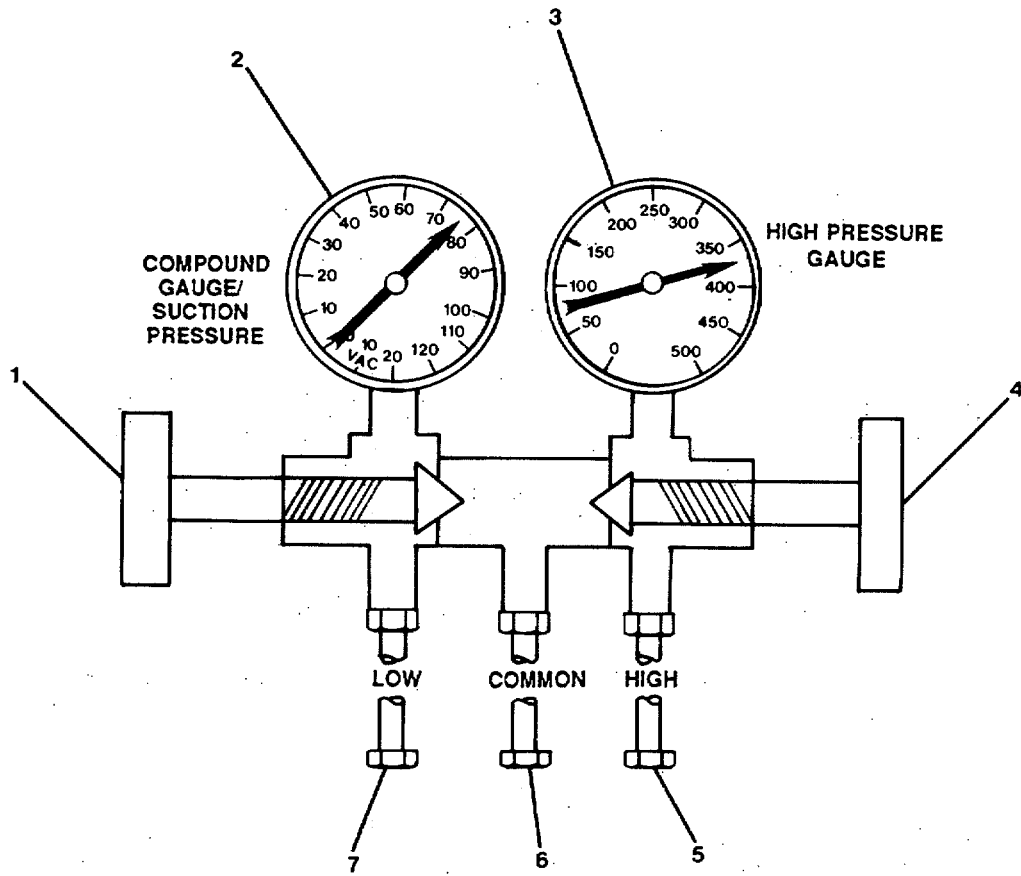
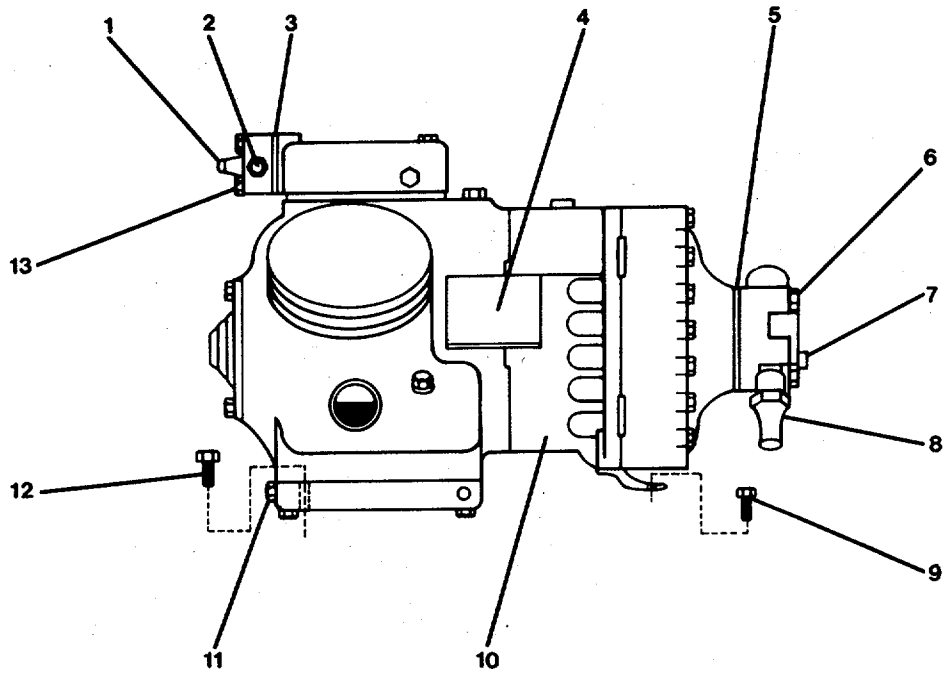
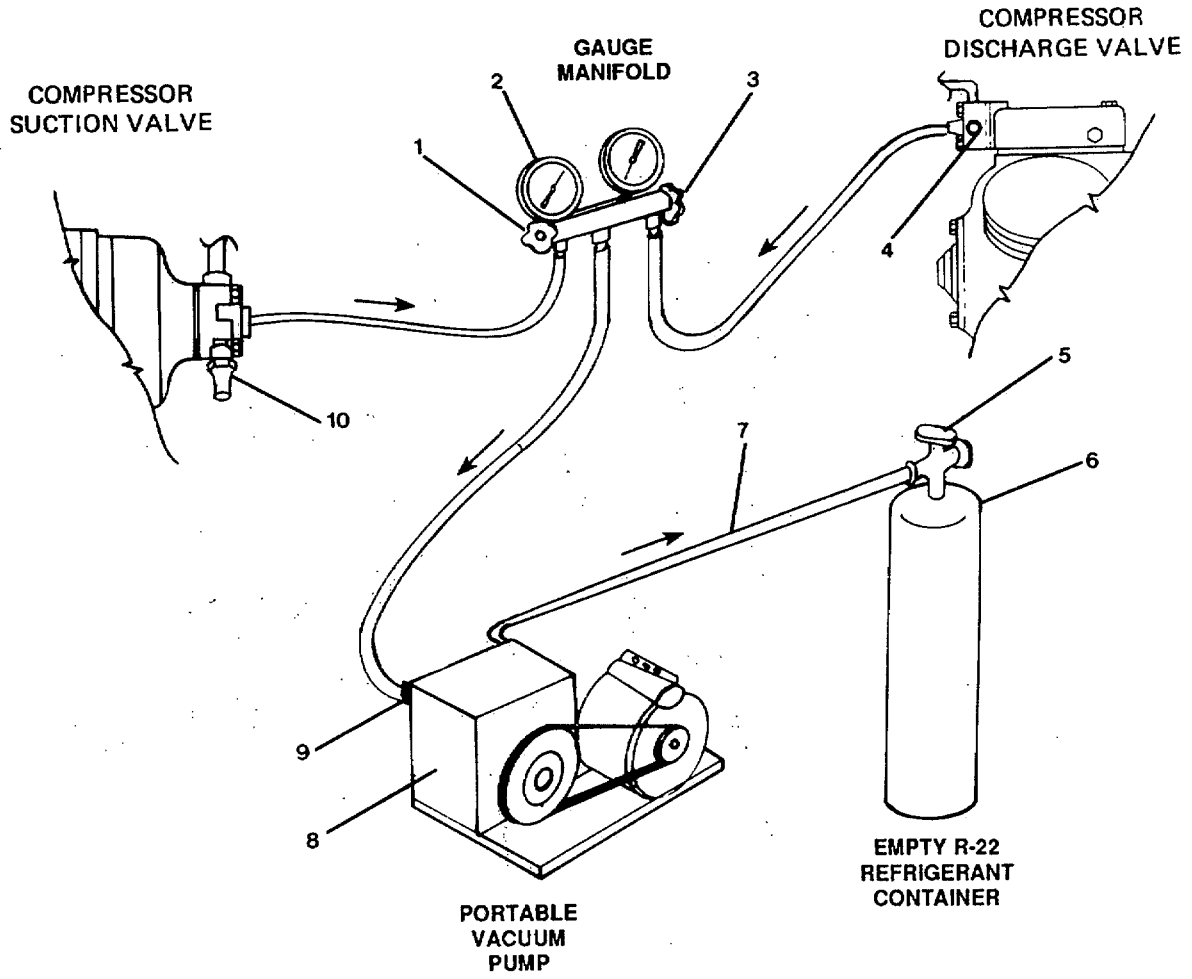

Figure 4-16. Portable Gauge Manifold.
FIGURE 4-17. Refrigeration Compressor.
Figure 4-18. *Removing Refrigerant Charge From Compressor.*
- (1) Connect a portable gauge manifold from the refrigeration tool kit to the compressor as follows (refer to FIGURES 4-16, 4-17, and 4-18):
- (a) Connect the combination gauge hose (7, FIGURE 4-16) to the gauge port connection on the compressor suction valve (7, FIGURE 4-17).
- (b) Connect the high pressure gauge (3, FIGURE 4-16) hose (5) to the gauge port connection on the compressor discharge valve (1, FIGURE 4-17).
- (c) Connect the common hose (6, FIGURE 4-16) to the suction connection (9, FIGURE 4-18) on a portable vacuum pump (8).
- (d) Connect the discharge line (7) of the vacuum pump to an empty R-22 refrigerant container (6). Make sure hand-wheel, gauge port, valves (1, 3) are closed by turning fully clockwise.
- (2) Remove cap (10) from suction valve and cap (4) from discharge valve for access to valve stems.
- (3) Close both suction and discharge valves by turning valve stems fully clockwise. This will isolate the compressor from the rest of the system.
- (4) Slowly open the handwheel gauge port valves (1, 3) counterclockwise 1/2 to 1 turn. This will allow the refrigerant to escape from the compressor and through the gauge manifold.
- (5) Open the valve (5) on the empty container (6) by turning counterclockwise.
- (6) Start and run the portable vacuum pump (8).
- (7) While the vacuum pump is running, watch the pressure on the combination gauge (2). When pressure has dropped to 1 or 2 psig on gauge (2), close hand wheel gauge port valves (1, 3) and stop the vacuum pump. This will leave a slight positive charge on the compressor.
- (8) If gauge pressure increases rapidly, repeat steps a.(5) through (8) above until 1 or 2 psig is maintained on combination gauge (2).
- (9) Close valve (5) on container (6) by turning fully clockwise.
- (10) Disconnect all manifold gauge hoses (5, 6, 7, FIGURE 4-16).
- (11) Disconnect vacuum pump discharge line (7, FIGURE 4-18) from container (6).
b. Disconnect suction valve (7, FIGURE 4-17) from compressor (10):
- (1) Remove four capscrews (6). The valve body will remain attached to refrigerant piping.
- (2) Remove gasket (5) and discard.